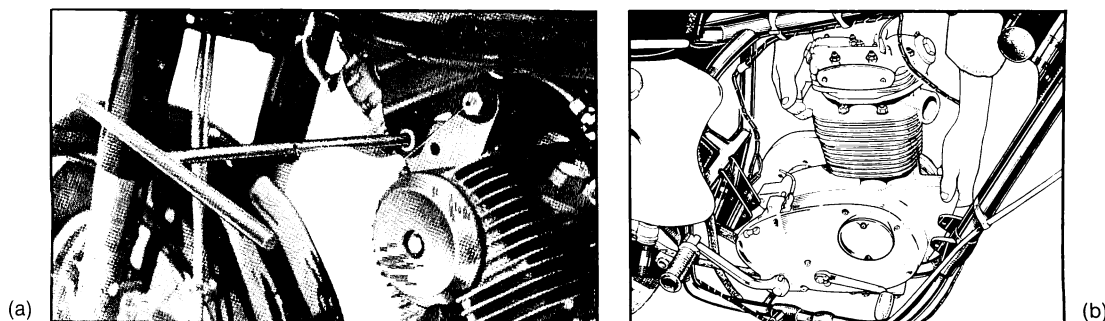

Fig. 4-10 Typical engine mounting provisions (a) (Honda Motor American Company) and (b) (Triumph Norton Incorporated)
**Engine.** Engines are usually attached to the frame in at least three places, and sometimes in as many as six places. Instead of bolting the engine directly to the frame tubes, there are metal tabs or mounts either bolted or welded to the frame. Usually the mounting bolts pass completely through the engine cases, adding stability to both the frame and engine. Some typical mounting schemes are pictured in Fig. 4-10.